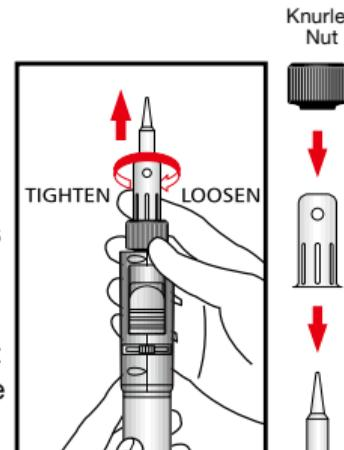

Fig.9
2. Unscrew Tip Assembly with a counterclockwise motion. (Fig. 9) Pliers may be required to lightly grasp the **Knurled Nut** in order to loosen the tip.